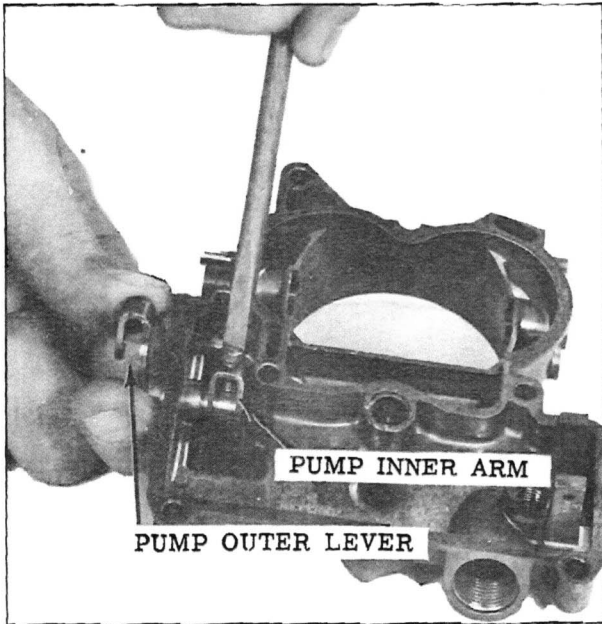

Fig. 20 Pump Inner Arm
10. The pump lever and shaft may now be removed by loosening set screw on inner arm and removing outer lever and shaft. (See Fig. 20)